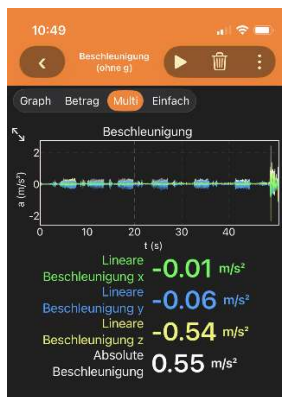

Fig. 3: Acceleration data recorded with the *phyphox* app shown in the Multi-mode.
- Tap **Multi** to display the measured accelerations for all axes (Fig. 3).